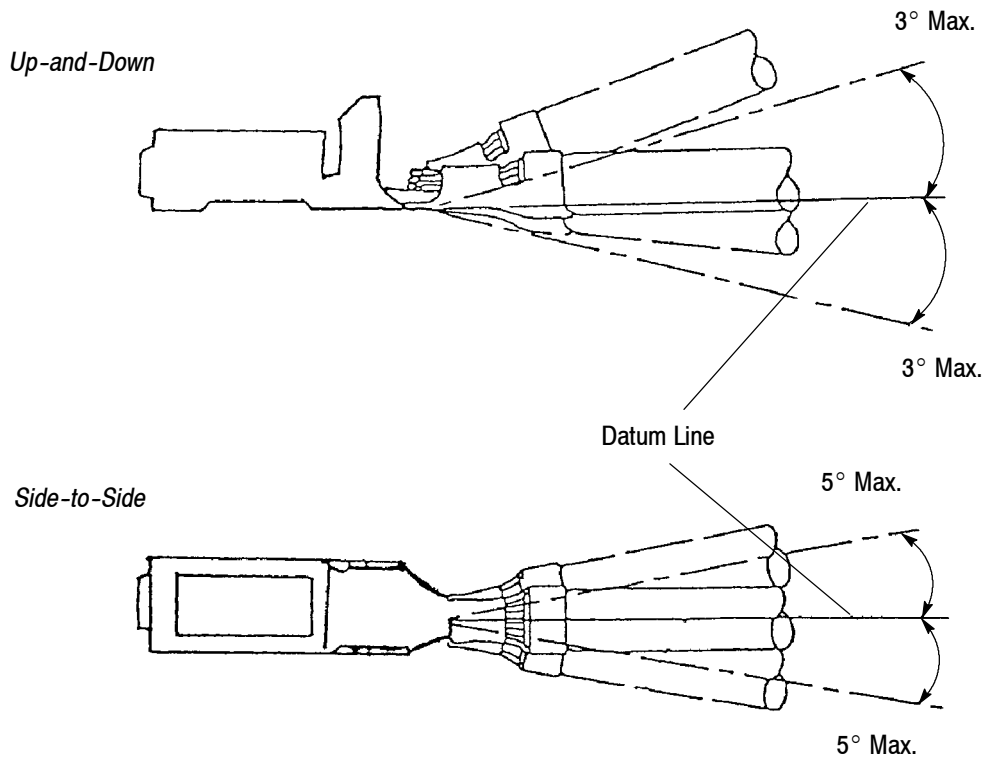

Figure 3
I. The contact, including the cutoff tab and burr, shall not be bent above or below the datum line more than the amount shown in Figure 3. The side-to-side bending of the contact shall not exceed the limits specified. There shall be no twist or roll in the crimped portion that will impair usage of the contact.